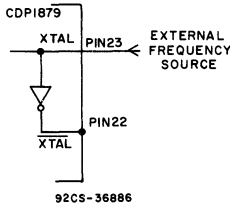
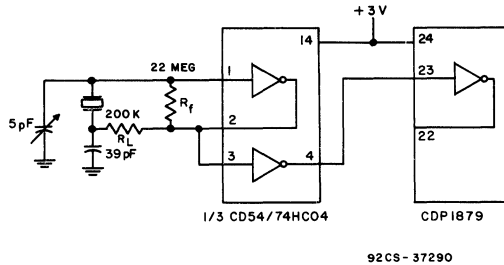
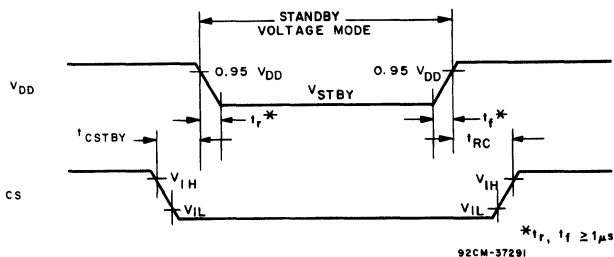
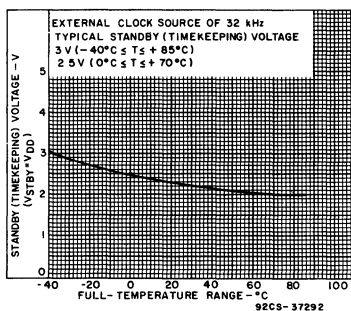

Fig. 5 - Connections for an external-frequency source applied to real-time clock.
Fig. 7 - Typical external clock-source circuit.
Fig. 8 - Standby (timekeeping) voltage- and timing-waveforms.
Fig. 9 - Typical standby (timekeeping) voltage vs. full-temperature range.
2. An external frequency input that is supplied at the XTAL input. \overline{XTAL} is left open (see Fig. 5). A typical external oscillator circuit is shown in Fig. 7 in section, "Standby (Timekeeping) VOLTAGE OPERATION".
clock source must be supplied at the XTAL input (see Fig. 7). The standby requirements for CHIP SELECT/DESELECT are listed in Table IV, and Fig. 8 indicates the timing waveforms. Fig. 9 illustrates the typical timekeeping curve over the full temperature range.